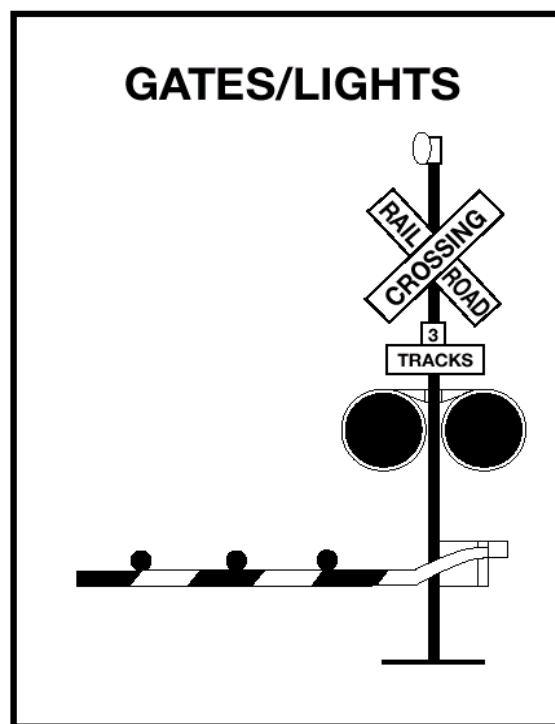

Figure SB. 8
**Flashing Red Light Signals.** At many highway-rail grade crossings, the crossbuck sign has flashing red lights and bells. When the lights begin to flash, stop! A train is approaching. You are required to yield the right-of-way to the train. If there is more than one track, make sure all tracks are clear before crossing. **See Figure SB.8.**
**Gates.** Many railroad-highway crossings have gates with flashing red lights and bells. Stop when the lights begin to flash and before the gate lowers across the road lane. Remain stopped until the gates go up and the lights have stopped flashing. Proceed when it is safe. If the gate stays down after the train passes, do not drive around the gate. Instead, call your dispatcher. If the gate comes down after you have started across, drive through it even if it means you will break the gate. **See Figure SB.8.**